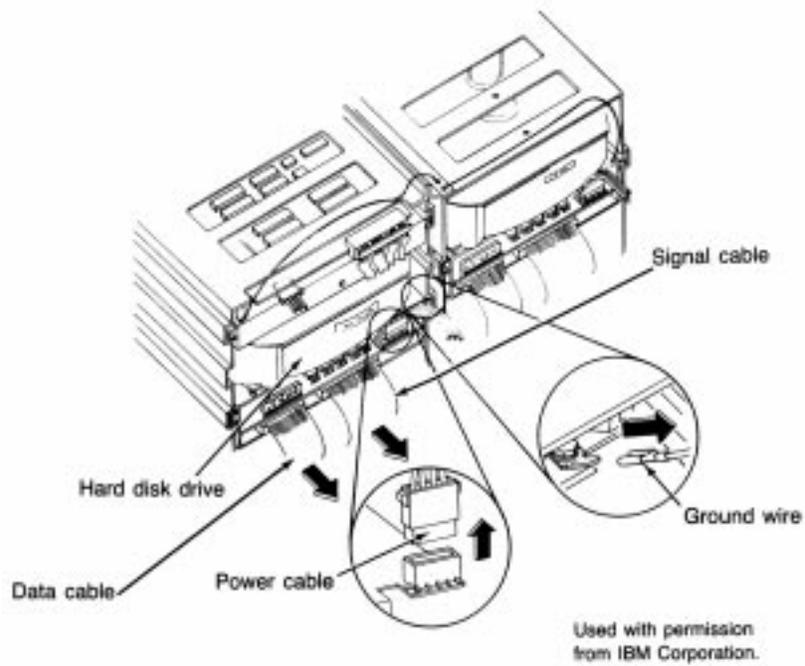

Fig. 3.15
2. Slide the disk drive forward about two inches, disconnect the power cables, signal and data cables, and ground wire from the drive (see figs. 3.15 and 3.16). In a correctly wired system, the colored stripe on one side of the ribbon cable always denotes pin number 1. The power connector is shaped so that it can be inserted only the correct way.